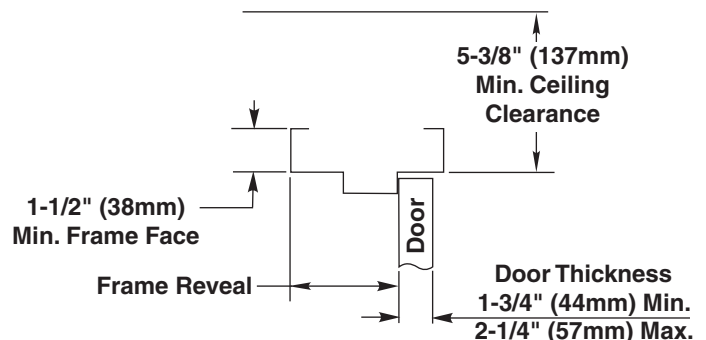

Figure 1
Become familiar with operator components and fasteners. It is recommended that components remain in box until installed. Verify there is minimum ceiling clearance for operator installation before proceeding. (Figure 1)
1. Verify frame reveal width is 2-5/8"-6-3/4" (67mm-171mm). (Figure 1)